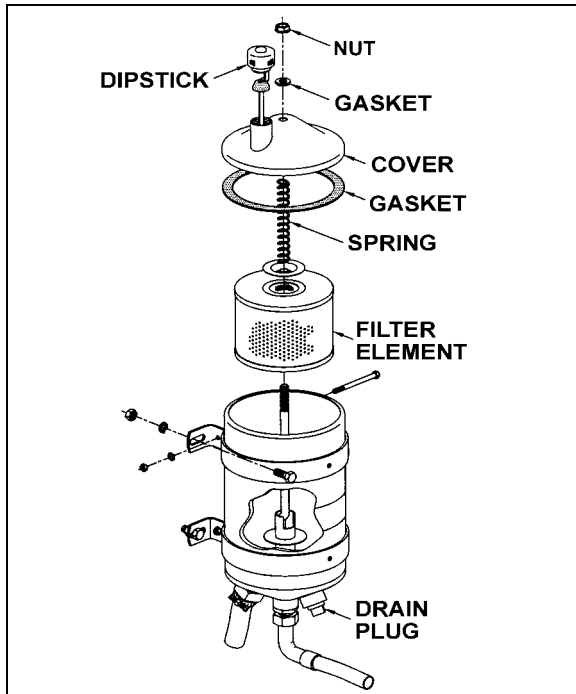

FIGURE 18: POWER STEERING FLUID RESERVOIR^{14018A}
3. Insert dipstick in reservoir. Remove it again to check fluid level (Fig. 18).